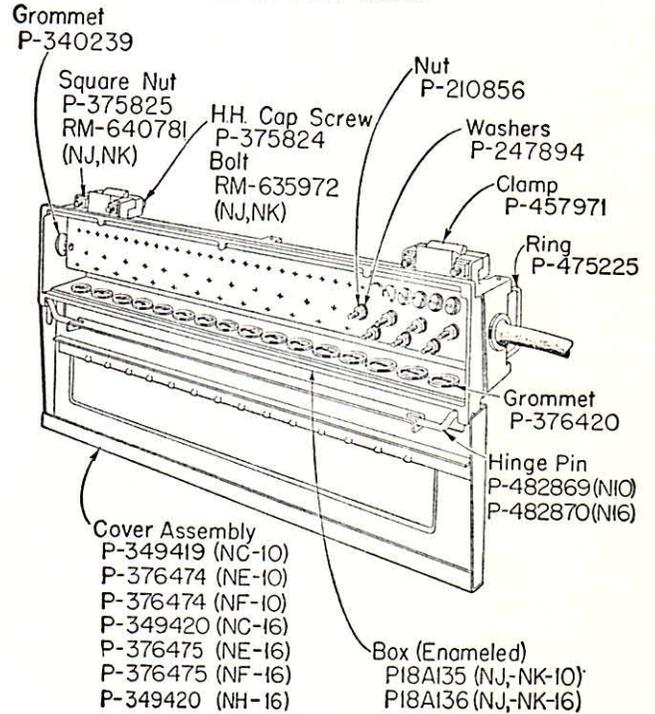

Fig. 5
6.01 Parts are indicated in Figs. 5 and 6.
6.03 To replace all corroded N type terminal housings use the terminal boxes shown in Fig. 5. These boxes are complete assemblies and contain special end grommets to permit placing the new box over the stub cable and terminal block. Corrosion resistant steel bolts and nuts are furnished for the strand clamps. Avoid damaging the enamel finish of these boxes during installation. However, should they become chipped or marred repair the finish as covered in 631-210-011.